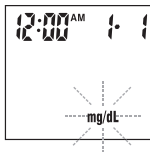
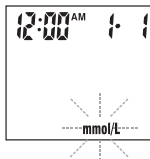

Figure 14
Figure 15
Press and hold the “**M**” button for four (4) seconds until the unit of measurement you are choosing appears on the display. See Figure 14 and Figure 15. To skip this step, press the “**SET**” button.